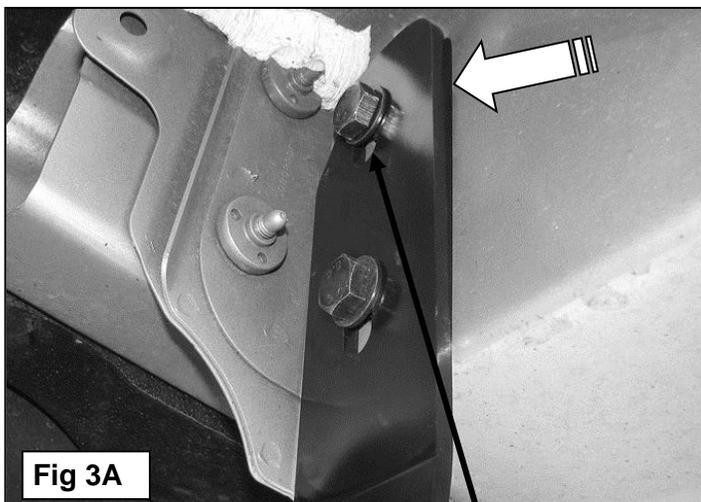
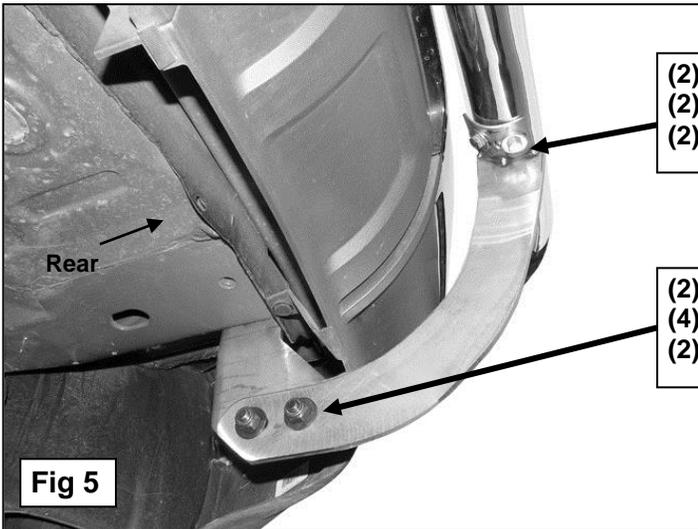

Fig 3A
Fig 5
6. When properly mounted, the Mounting Brackets will be close to vertical. Due to significant variances in production vehicles, (2) extra 12mm Flat Washers have been included to provide more Frame Bracket adjustment. Insert (1) 12mm Flat Washer per side in the top mounting position between the Frame Bracket and the vehicle as necessary to align the Brackets, **(Figures 3A & 3B)**.
7. Carefully position the Rear Bumper Guard onto the Mounting Brackets and line up the threaded inserts with the cradles on the Mounting Brackets. If the holes do not line up properly, (2) Spacers have been provided to provide additional width adjustment. Insert (1) Spacer between each Frame Bracket and Mounting Bracket to move the Mounting Brackets inward,
(Figures 4A & 4B). Bolt the Rear Bumper Guard to the Mounting Brackets with the included (4) 8mm x 25mm Hex Bolts, (4) 8mm Lock Washers and (4) 8mm Flat Washers, (Figure 5).